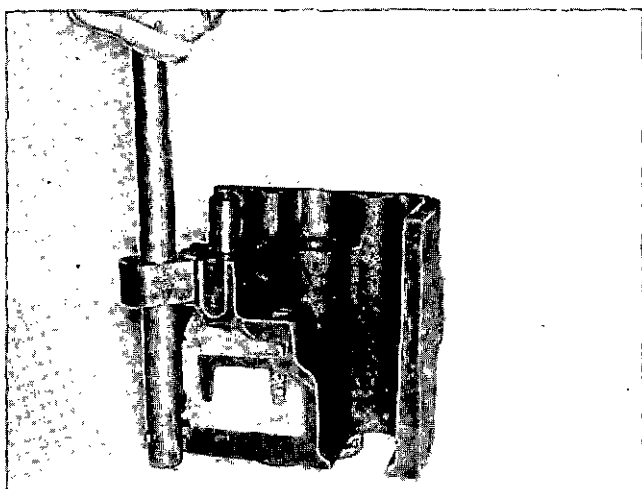

Fig. 2-2-8, NG30. Cleaning adapter seating area with ST-1142
3. Using a ST-1142, clean up spark plug adapter seating areas. Fig. 2-2-8.